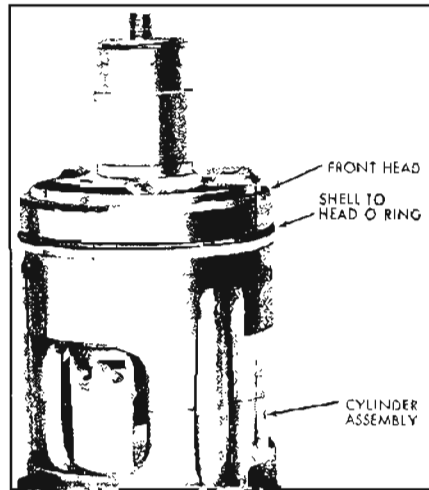

Figure 11-149—Front Head Installed on Cylinder Assembly
7. Install a new shell to head "O" ring on shoulder at rear of front head. See Figure 11-149.